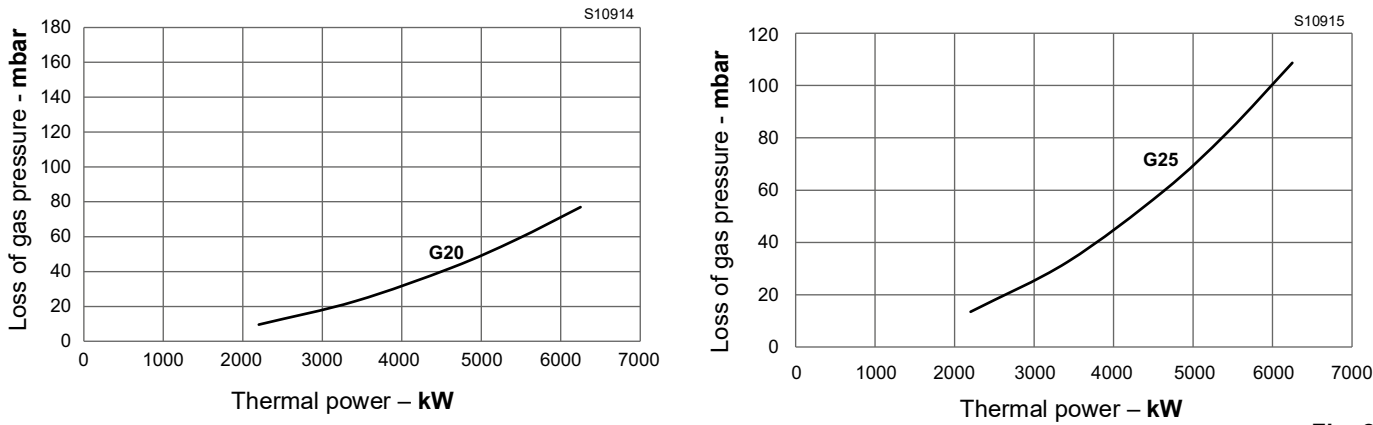

Fig. 26
The values shown in Fig. 24, Fig. 25, Fig. 26 and Fig. 27 refer to:
- Find, in the Fig. 24, Fig. 25, Fig. 26 and Fig. 27 for the chosen burner, the pressure value closest to the result of the subtraction.
A pressure of 53.1 mbar, corresponds in the Fig. 24, Fig. 25, Fig. 26 and Fig. 27 to an output of 4450 kW.
- find the nearest output value in the Fig. 24, Fig. 25, Fig. 26 and Fig. 27 for the chosen burner.